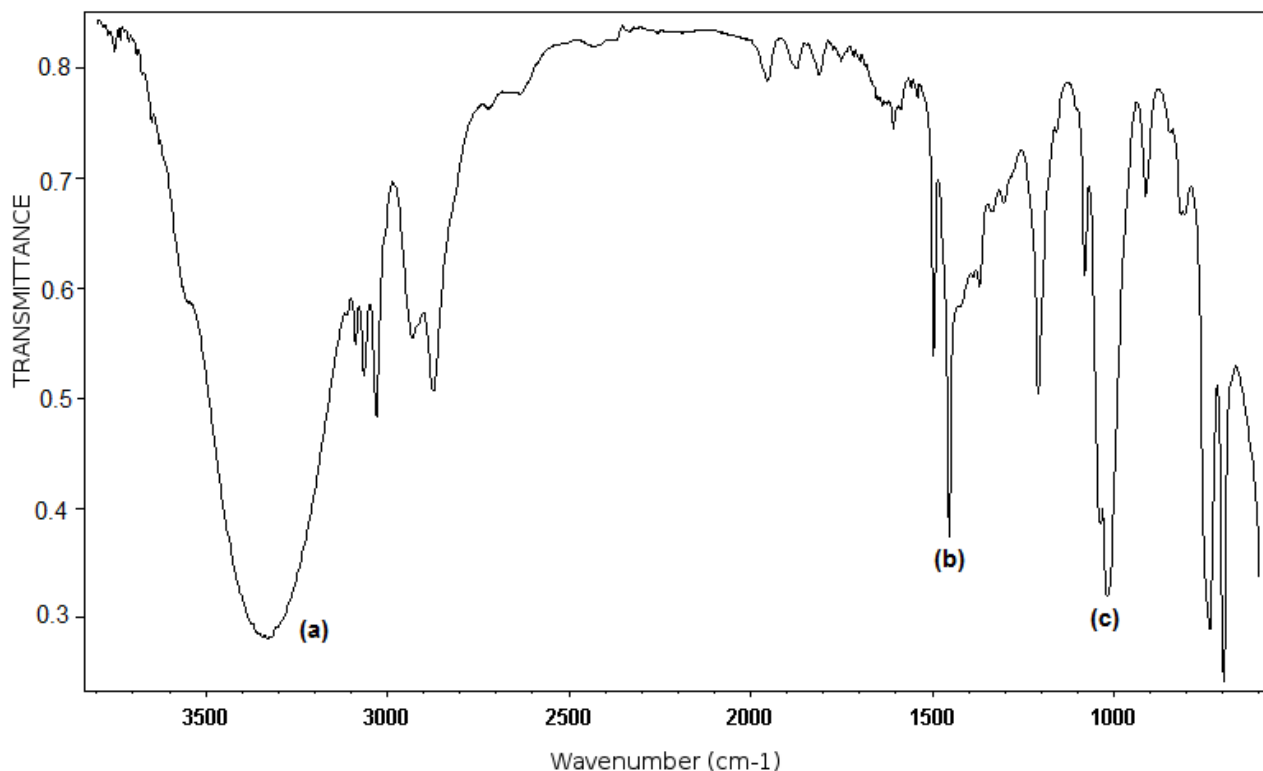

Fig. 5.1
- 5 Infra-red(IR) absorptions can be used to identify functional groups in organic compounds. For example, ethyl ethanoate shows absorption at $100 - 1300 \text{ cm}^{-1}$ and $1680 - 1750 \text{ cm}^{-1}$.
A student used infra-red spectrometer to obtain an infra-red(IR) spectrum of benzyl alcohol $\text{C}_6\text{H}_5\text{CH}_2\text{OH}$ as shown in Fig. 5.1.
1. Peak (a) from Fig 5.1 is missing compared to Fig 5.2., indicating loss of –OH group
2. Presence of C=O at 1670–1740 cm^{-1} in Fig 5.2 compared to Fig 5.1, could be due to aldehyde group